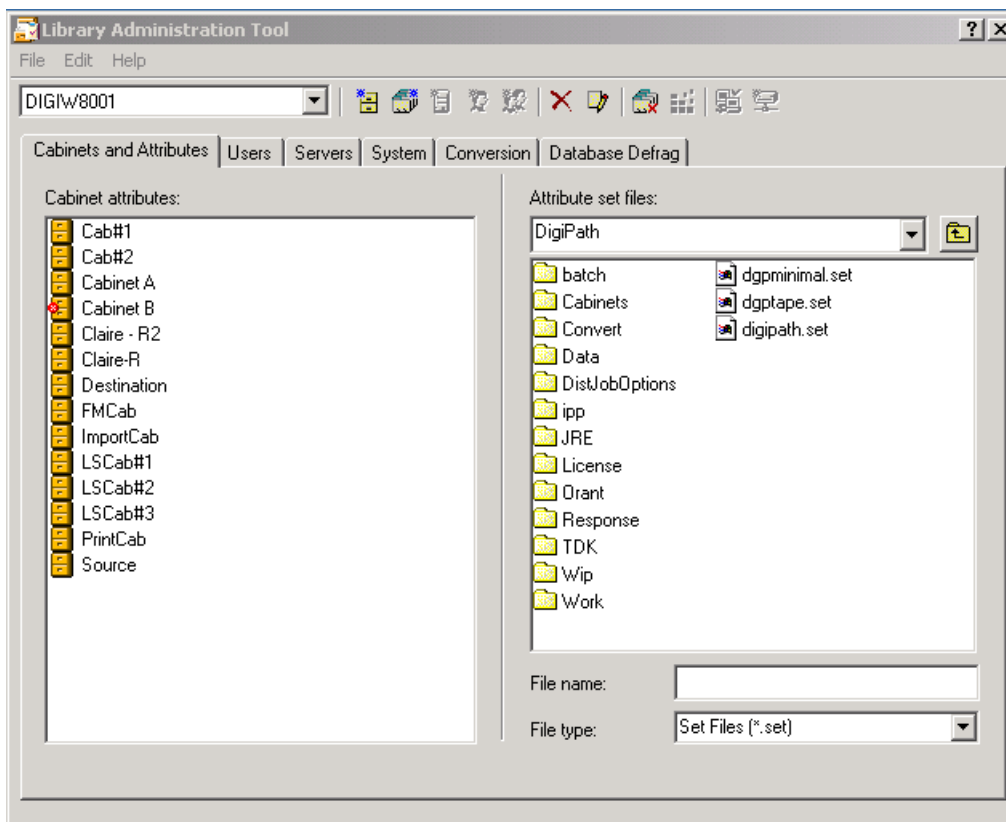

Figure 6-2. Library Administration Tool application
2. Log into the Library Administration Tool. The Library Administration Tool application opens. See Figure 6-2.